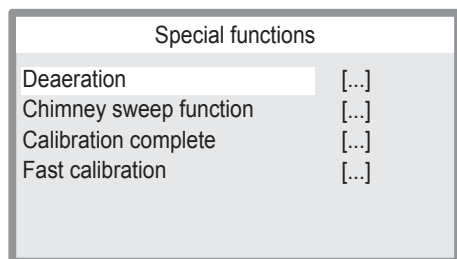

Fig. 7.9
- Press key 12 or 13 (Fig. 7.4) to select the desired menu from those available (Fig. 7.9).